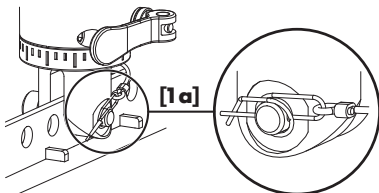

Fig. 5: Fixing bolt secured
4. Recheck your work and ensure the ring cotter [1a] is properly fitted to the fixing bolt - Fig. 5.